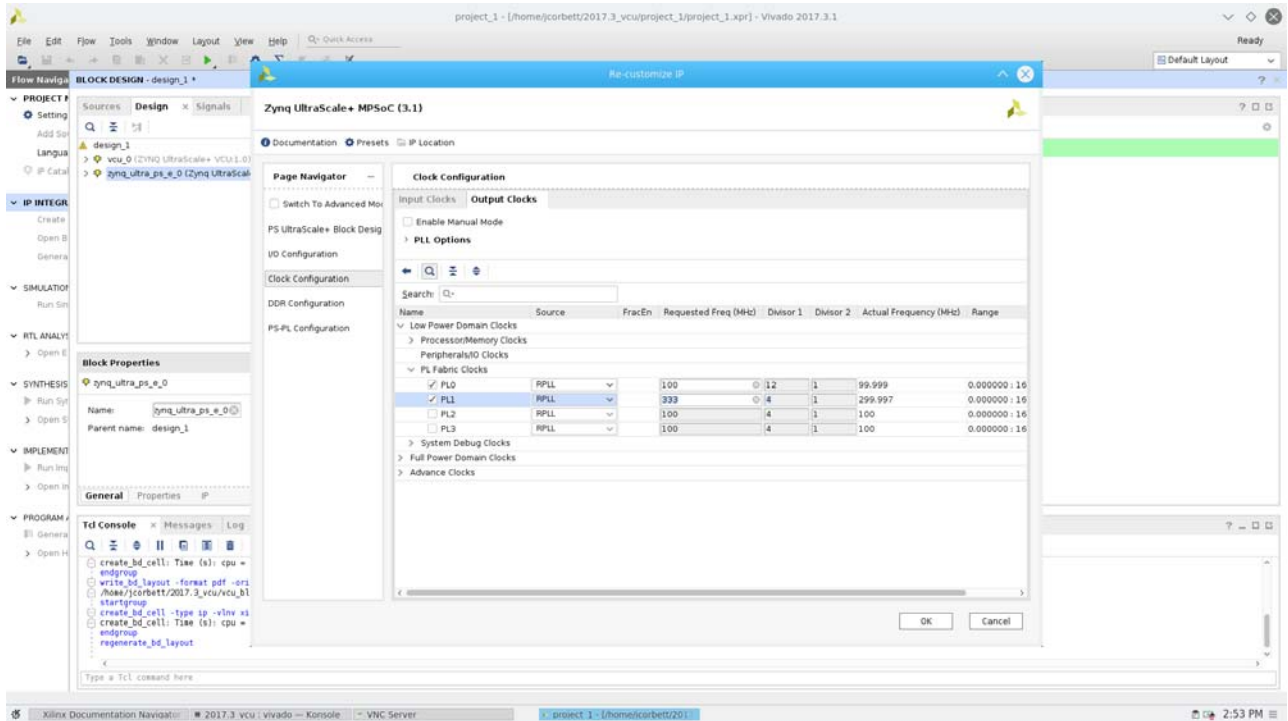

Figure 10-8: Re-customize IP
Figure 10-8 shows an example of configuring the PS-PL interface signals.
11. Select PL1 clock frequency as 333 MHz as shown in Figure 10-8.